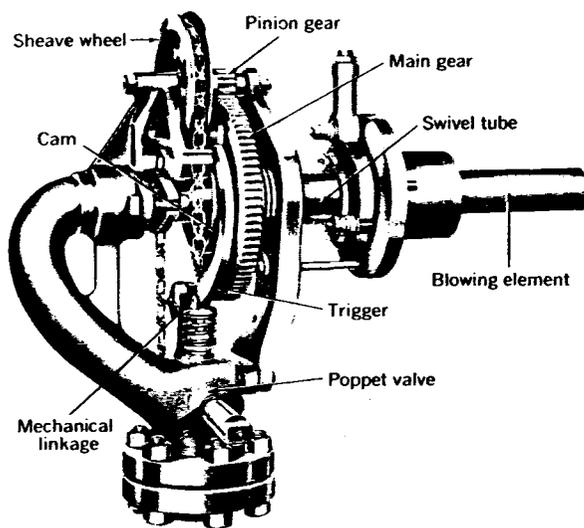

FIGURE 2-29. FIXED POSITION
(1) **Head.** The head consists of an operating mechanism, usually a chain or handwheel operating two gears, for turning the element within a limited arc; a poppet valve for admitting and controlling the flow of steam or air to the element; and a cam for opening and closing this valve (reference figure 2-29). The poppet valve is adjusted at startup to obtain proper steam or air regulation. The cam is cut or adjusted to establish the proper blowing arc and prevent steam or air from striking and cutting the baffles, drums, tubes, or headers.